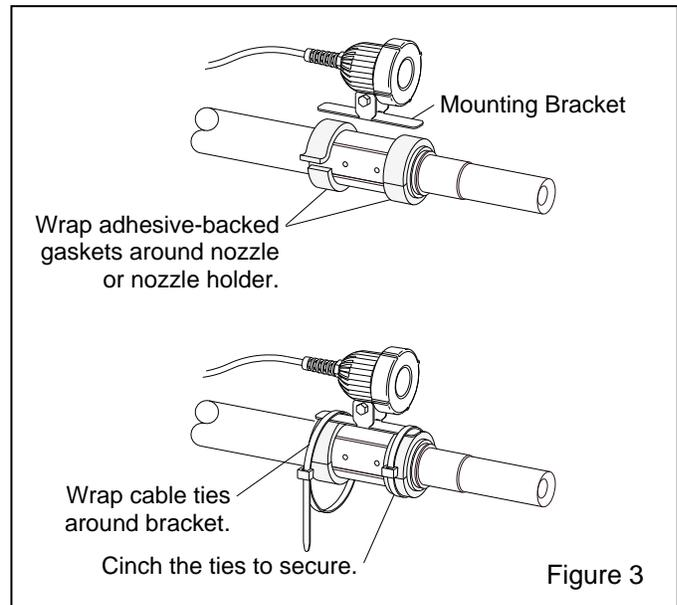

Figure 3
2.2 Assemble Light to Blast Hose Refer to Figure 3
2.2.1 Use cable ties provided or user-supplied worm clamps or tape to attach the light to the blast hose, nozzle holder or nozzle, as shown in Figure 3. When attaching the light to a slick surface, such as a nozzle or nozzle holder, use adhesive-backed gasket to prevent
2.2.2 Wrap the cable ties around each end of the mounting bracket, as shown in Figure 3, and loosely but secure enough to barely hold the light in position.